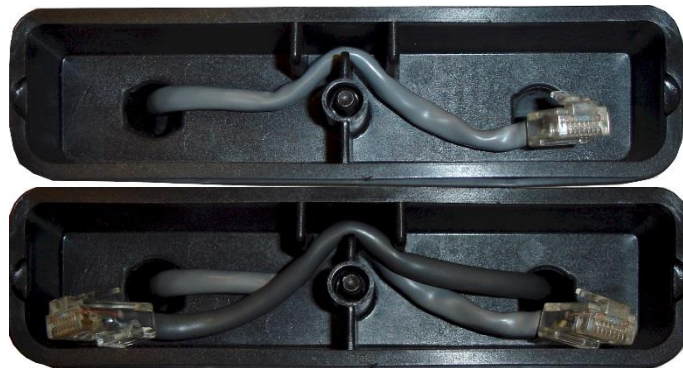

Figure 11: Face Plate Cover Strain Relief
9. Route the CAT-5e Ethernet cable through the molded strain-relief fins in the Face Plate Cover (Figure 11) to secure the cable and provide strain-relief for the connector. If a second Ethernet cable is installed, remove the second port cover and route cable.